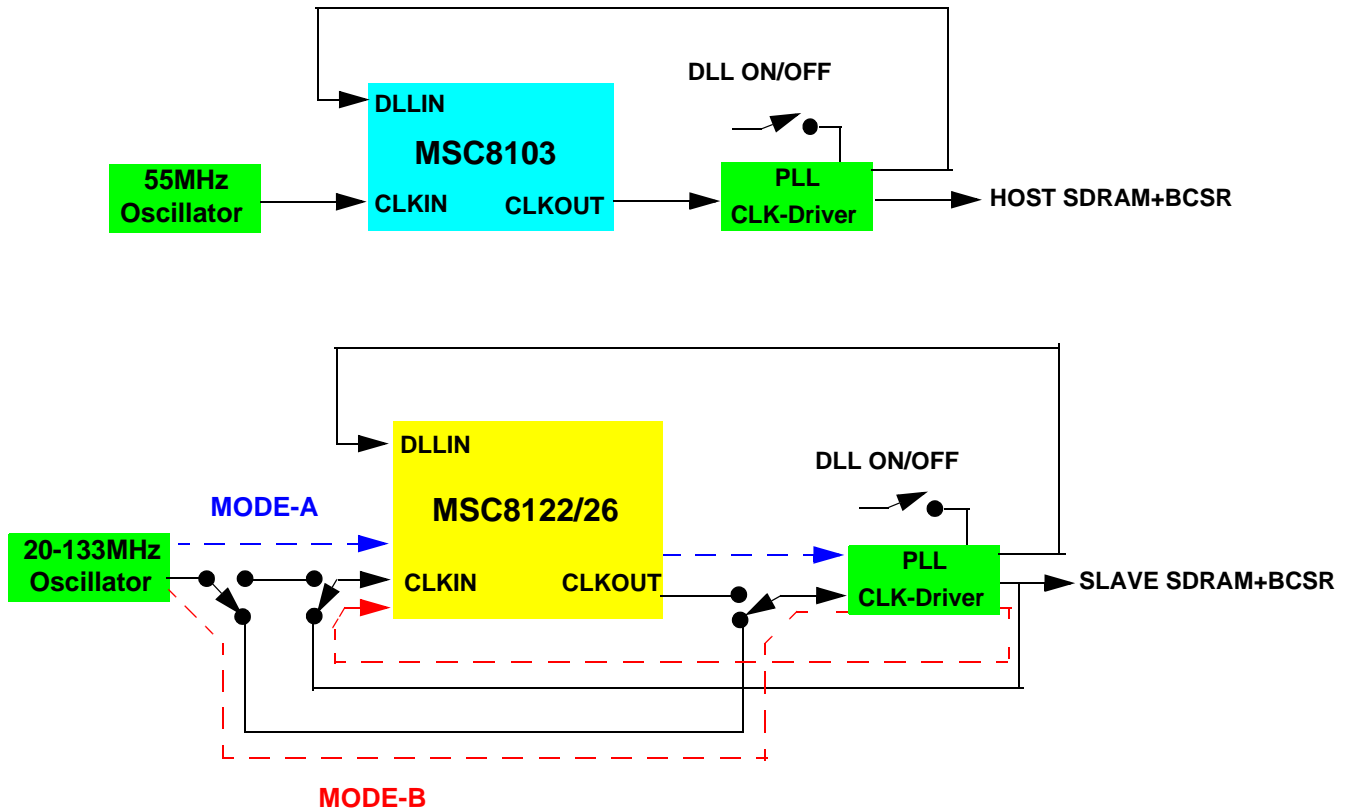

Figure 4-5. Slave Clock Distribution Scheme
- **MODE B:** To reach equal delay on all clocks, the on-board oscillator distributes all clocks via the clock buffer including the DLL input of the MSC8122/26, as shown in **Figure 4-5**.